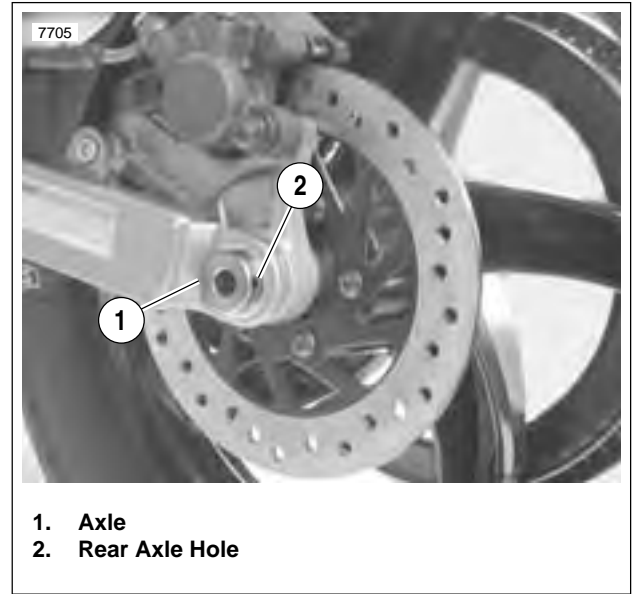

Figure 2-10. Rear Axle, Left Side
- See Figure 2-10. Hold left side spacer in place and slide caliper and carrier over rotor.